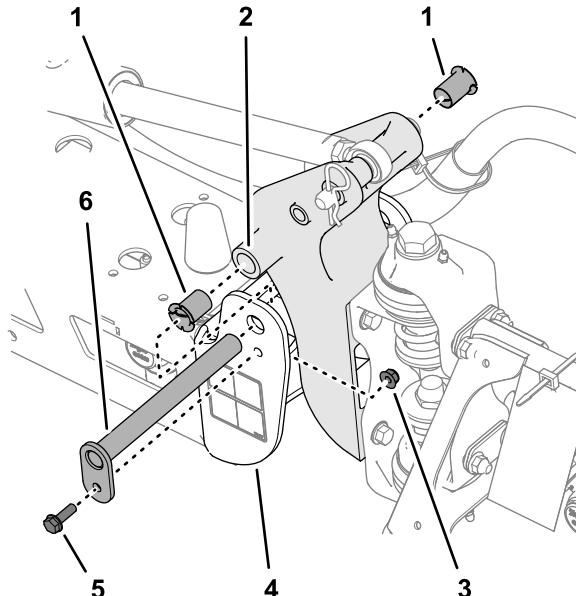

Figure 115
3. Remove the bolt and nut that secure the pivot pin, and remove the pin (Figure 115).
5. Remove and inspect the nylon bushings from the front and back sides of the pivot bracket (Figure 115).
6. Lubricate the nylon bushings with a small amount of oil, and install the bushings into the pivot bracket (Figure 115).
7. Align the holes in the pivot bracket with the holes in the end channel (Figure 115).